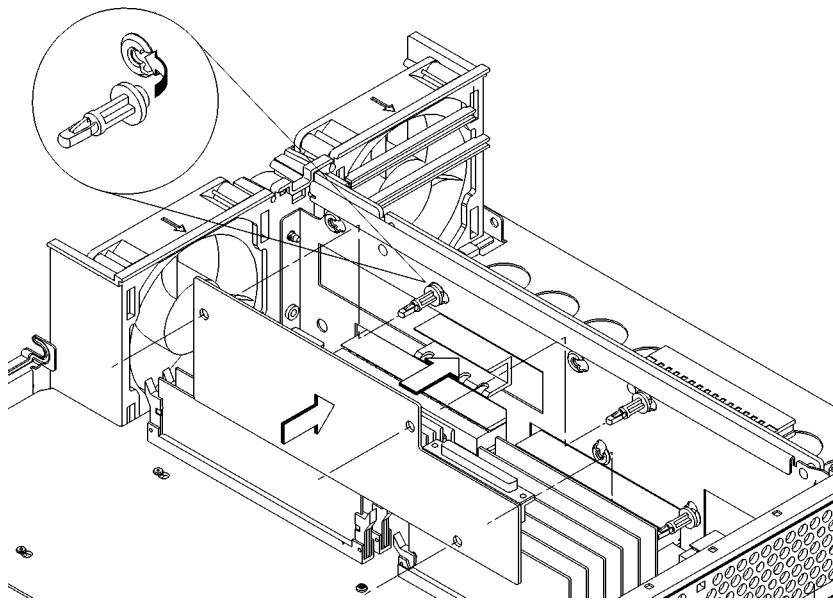

Figure 64 Installing the Optional FWD SCSI Controller
- 1 Install the three standoffs, as shown in Figure 64.
- 2 Line up the connector on the FW SCSI controller and the connector on the CPU board while at the same time aligning the standoffs to the holes in the FWD SCSI controller, as shown in Figure 64.